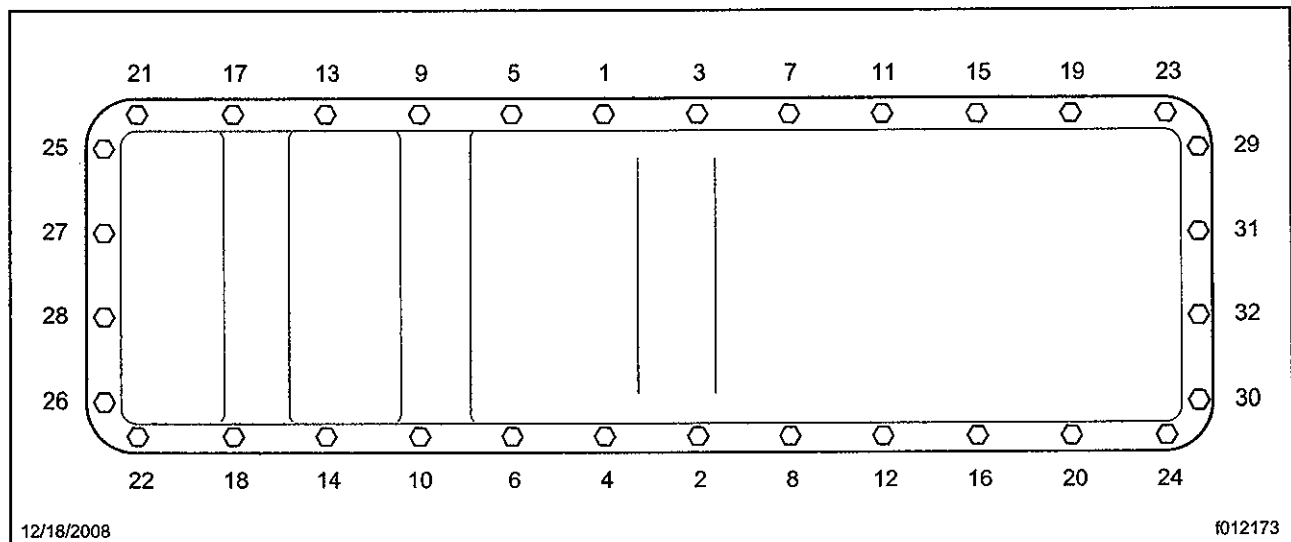

Fig. 4, Oil Pan Fastener Tightening Sequence
- 18.3 Using a new gasket and the existing capscrews and washers, install the new oil pan. Tighten the capscrews 248 lbf-in (28 N-m) in the sequence shown in **Fig. 4**.